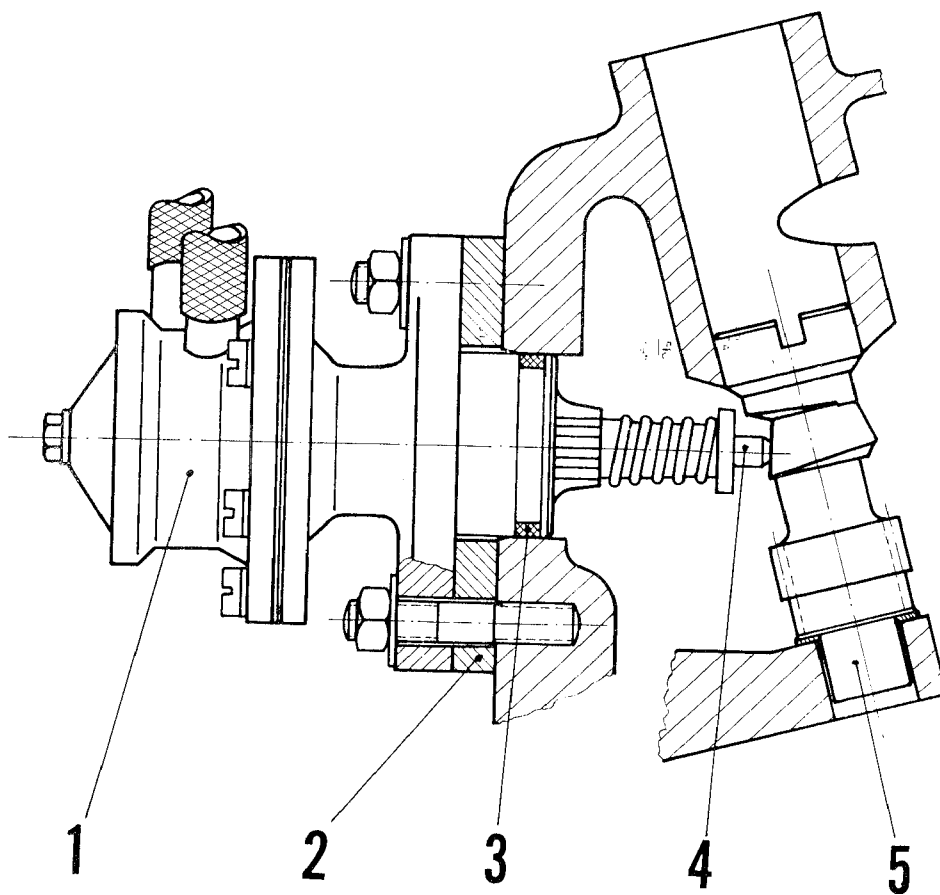

Fig. 2
8. Loosen hose clamp on rubber (seal (Ref. Fig. 2).